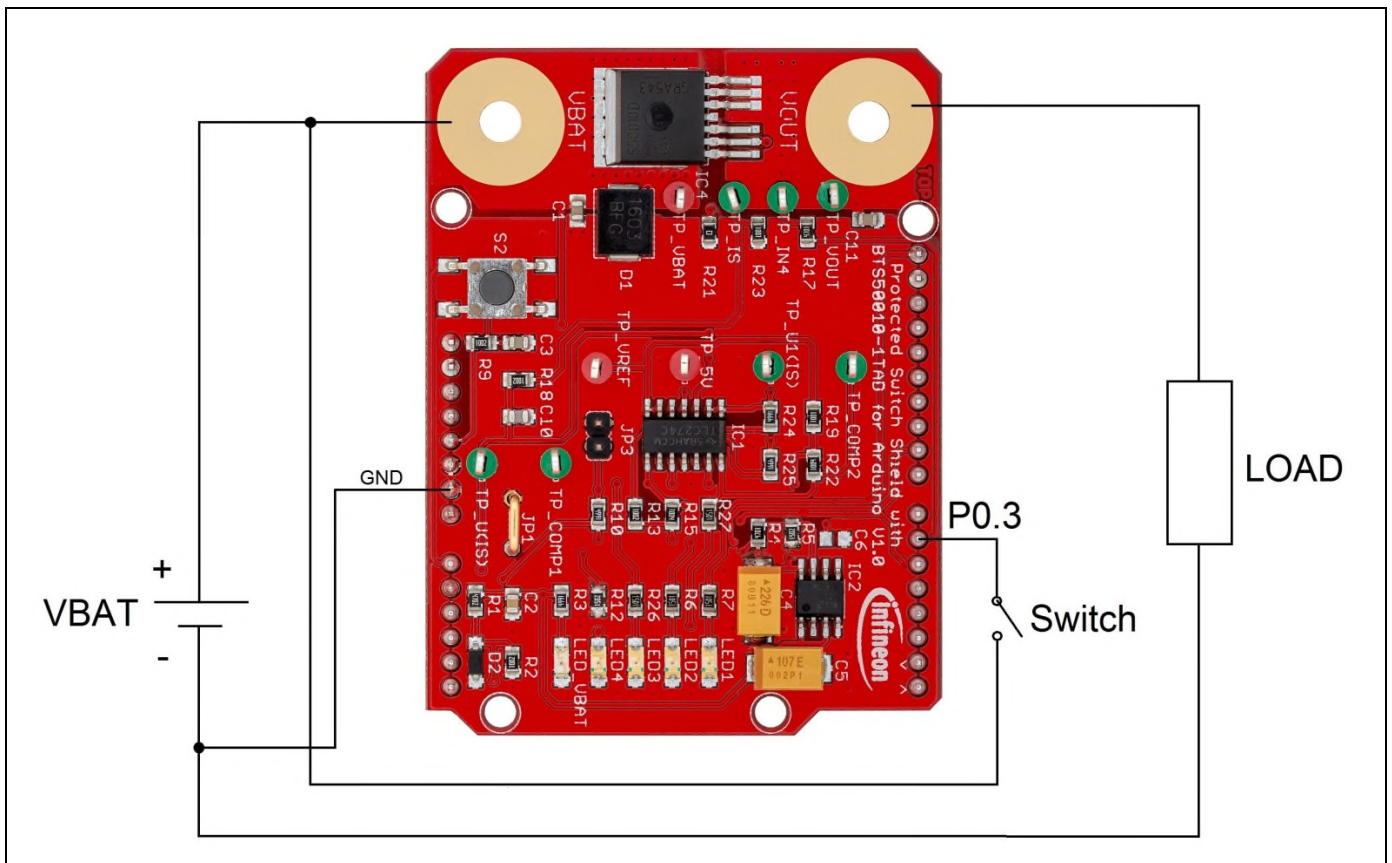

Figure 11 Example circuit of BTS50010-1TAD shield in stand alone mode
The use of the shield BTS50010-1TAD in stand alone mode (without Arduino Uno R3 or the XMC 1100 Boot Kit) is shown in Figure 11.
- Connect the High Side Switch Shield to the load and an external switch corresponding to the example circuit given in Figure 11